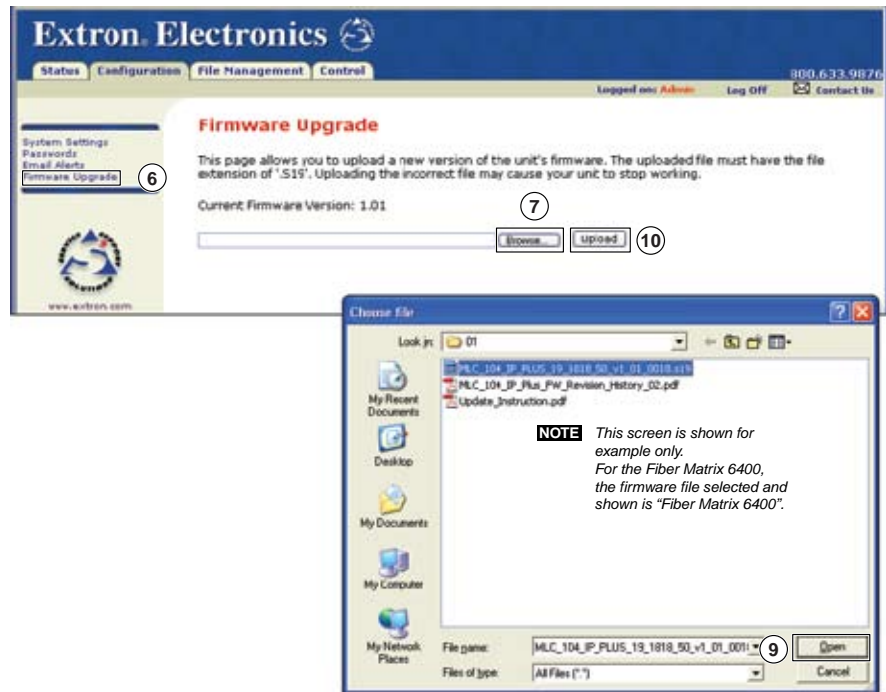

Figure 6-9 — Firmware upgrade
6. Click the **Firmware Upgrade** link (figure 6-9).